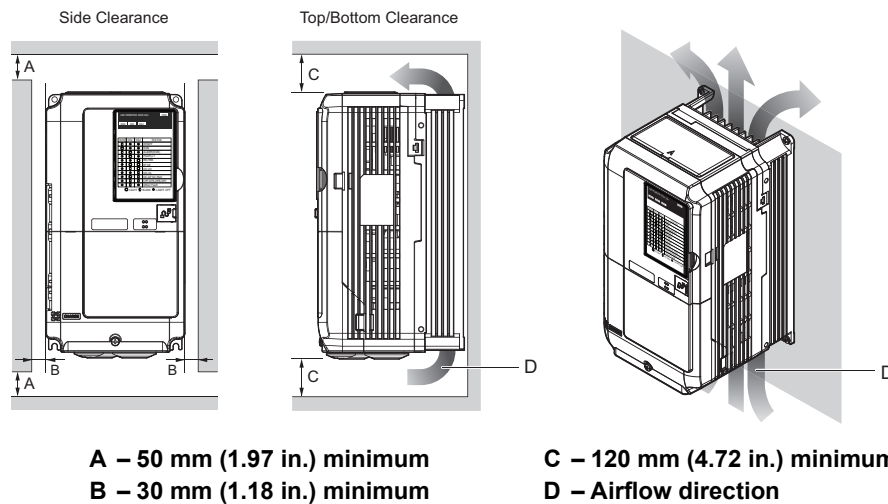

Figure 3 Correct Installation Spacing
*Figure 3* shows the installation distance required to maintain sufficient space for airflow and wiring.